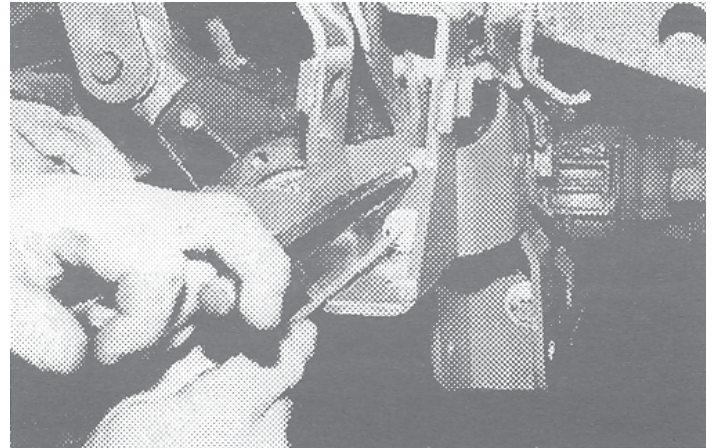

Fig. 32
31. Align holes in bottom of "LR" with holes in "CL". Insert two 7/16" x 1-1/4" bolts and washers through "LR". Install washers and nuts provided on inside of "CL". **Note:** it may be necessary to ream top 7/16" hole to install bolt. Torque 7/16" bolts first; then 1/2" cross bolt. **Fig. 32.** Repeat step on PASS side engaging bracket "RR" and "CR".